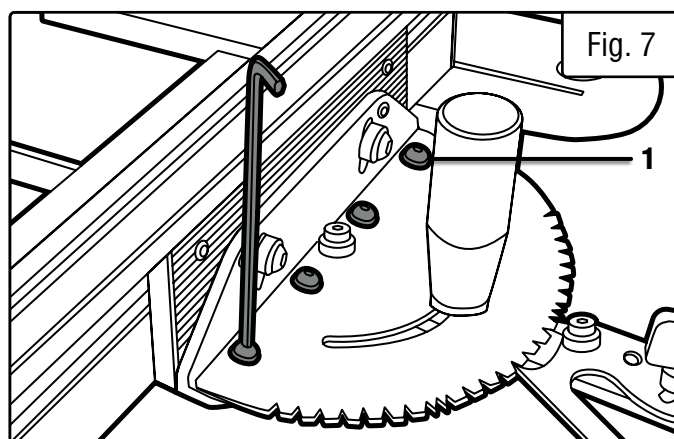

Fig. 7
8. Use a combination square to make sure that the fence and blade are square. If so, proceed to the next section. If not, loosen the 4 screws (Fig. 7 - 1) using a 4mm hex wrench. Adjust the miter gauge and fence until it is square to the blade, then tighten the screws.